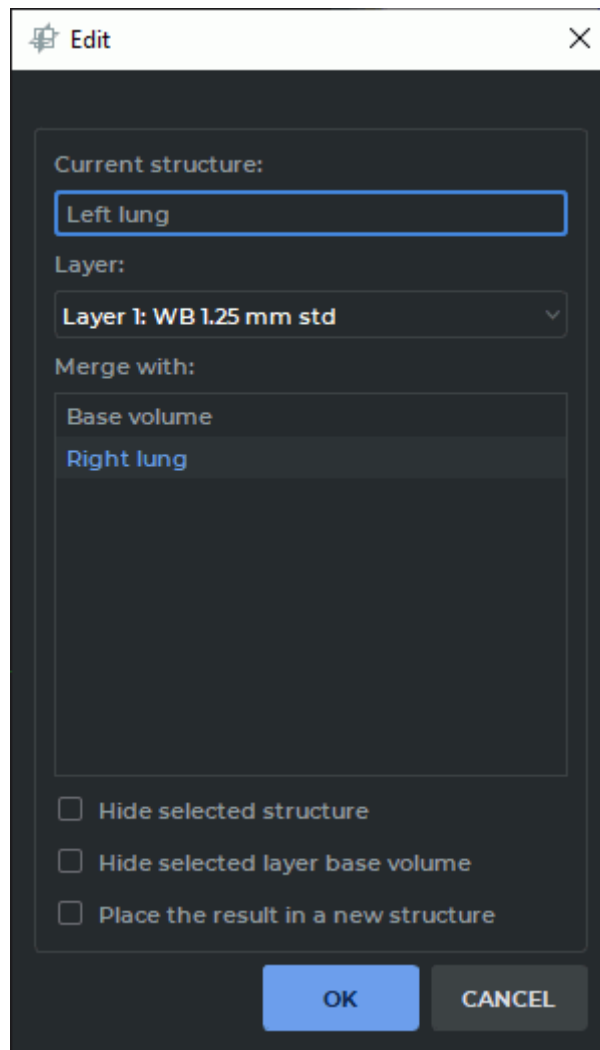

Figure 6.28: Union
2. Click on the **Union**  button. The dialog box shown in Fig. 6.28 will be displayed.
2. Click on the **Subtract**  button. The dialog box, similar to the one shown in Fig. 6.28, will be displayed.
2. Click on the **Intersect**  button. The dialog box, similar to the one shown in Fig. 6.28, will be displayed.